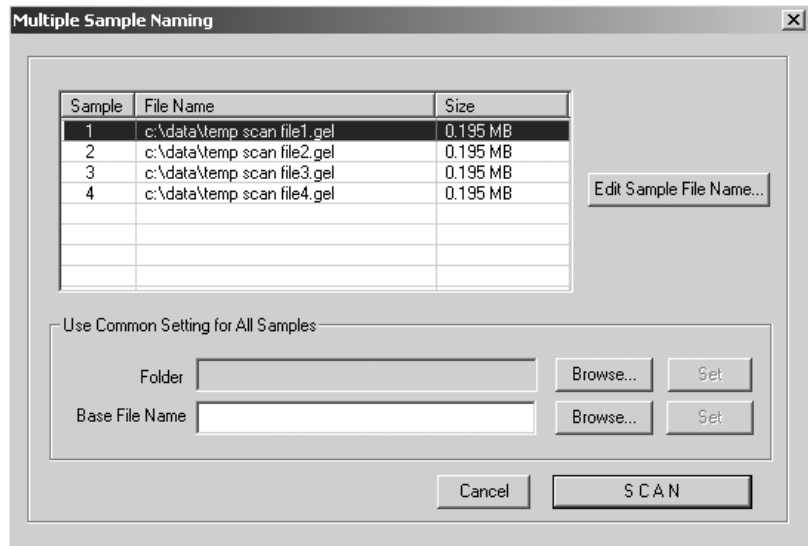

Fig 6-8. The Multiple Sample Naming window.
- 2 In the Scanner Control window, click the **Scan** button. The Multiple Sample Naming window appears (fig 6-8). Default file names appear for each sample.